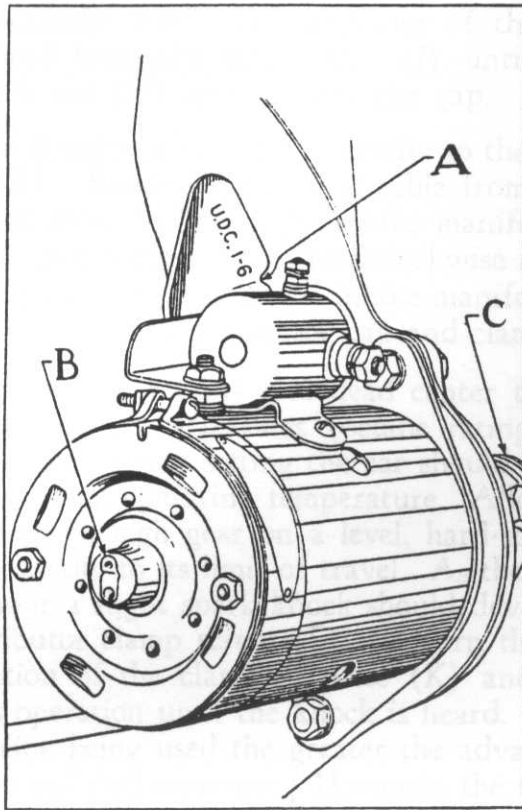

Figure 4
To determine this, remove the spark plug from number one (front) cylinder. Place the finger over the spark plug hole and crank the engine slowly, using the hand crank. Air pressure against the finger indicates that the piston is coming up on the compression stroke. After this is felt, continue cranking the engine slowly until the mark U. D. C. 1 and 6 is directly in line with the pointer on timing inspection hole in the rear support plate of the motor as indicated at (A), Figure 4. The piston is then at U. D. C. and ready to move downward on the power stroke.
The front bearing of the starting motor should be lubricated at (B), Figure 4, with a few drops of light oil every 1,000 miles. The Bendix Drive assembly (C) should be flushed with kerosene every 2,000 miles.